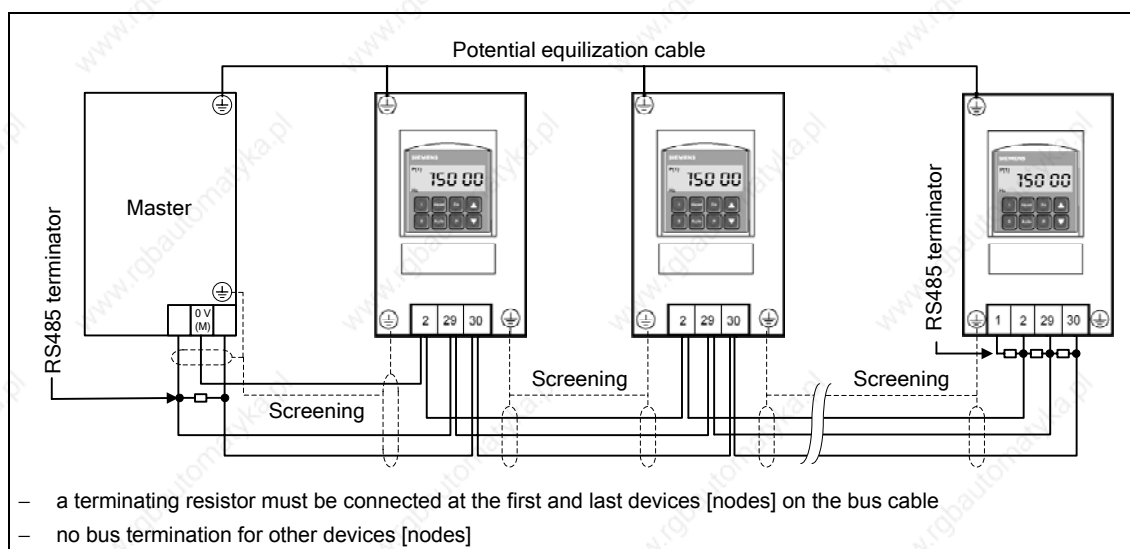
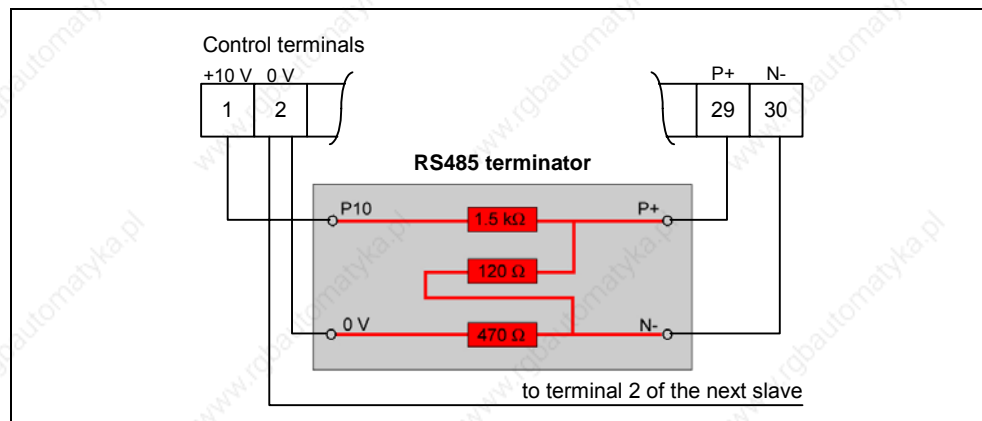

Fig. 3-47 Connecting the USS bus cable
Fig. 3-48 Connecting the RS485 terminator
2. A terminating resistor between P+ and N- at both bus ends (refer to Fig. 3-48)
If the frequency inverter is the last slave on the bus (refer to Fig. 3-47), then the P+ and N- of the RS485 terminator provided must be connected there to the RS485 terminals (refer to Fig. 3-48). P10 and 0 V can be connected to terminals 1 and 2 for the power supply.